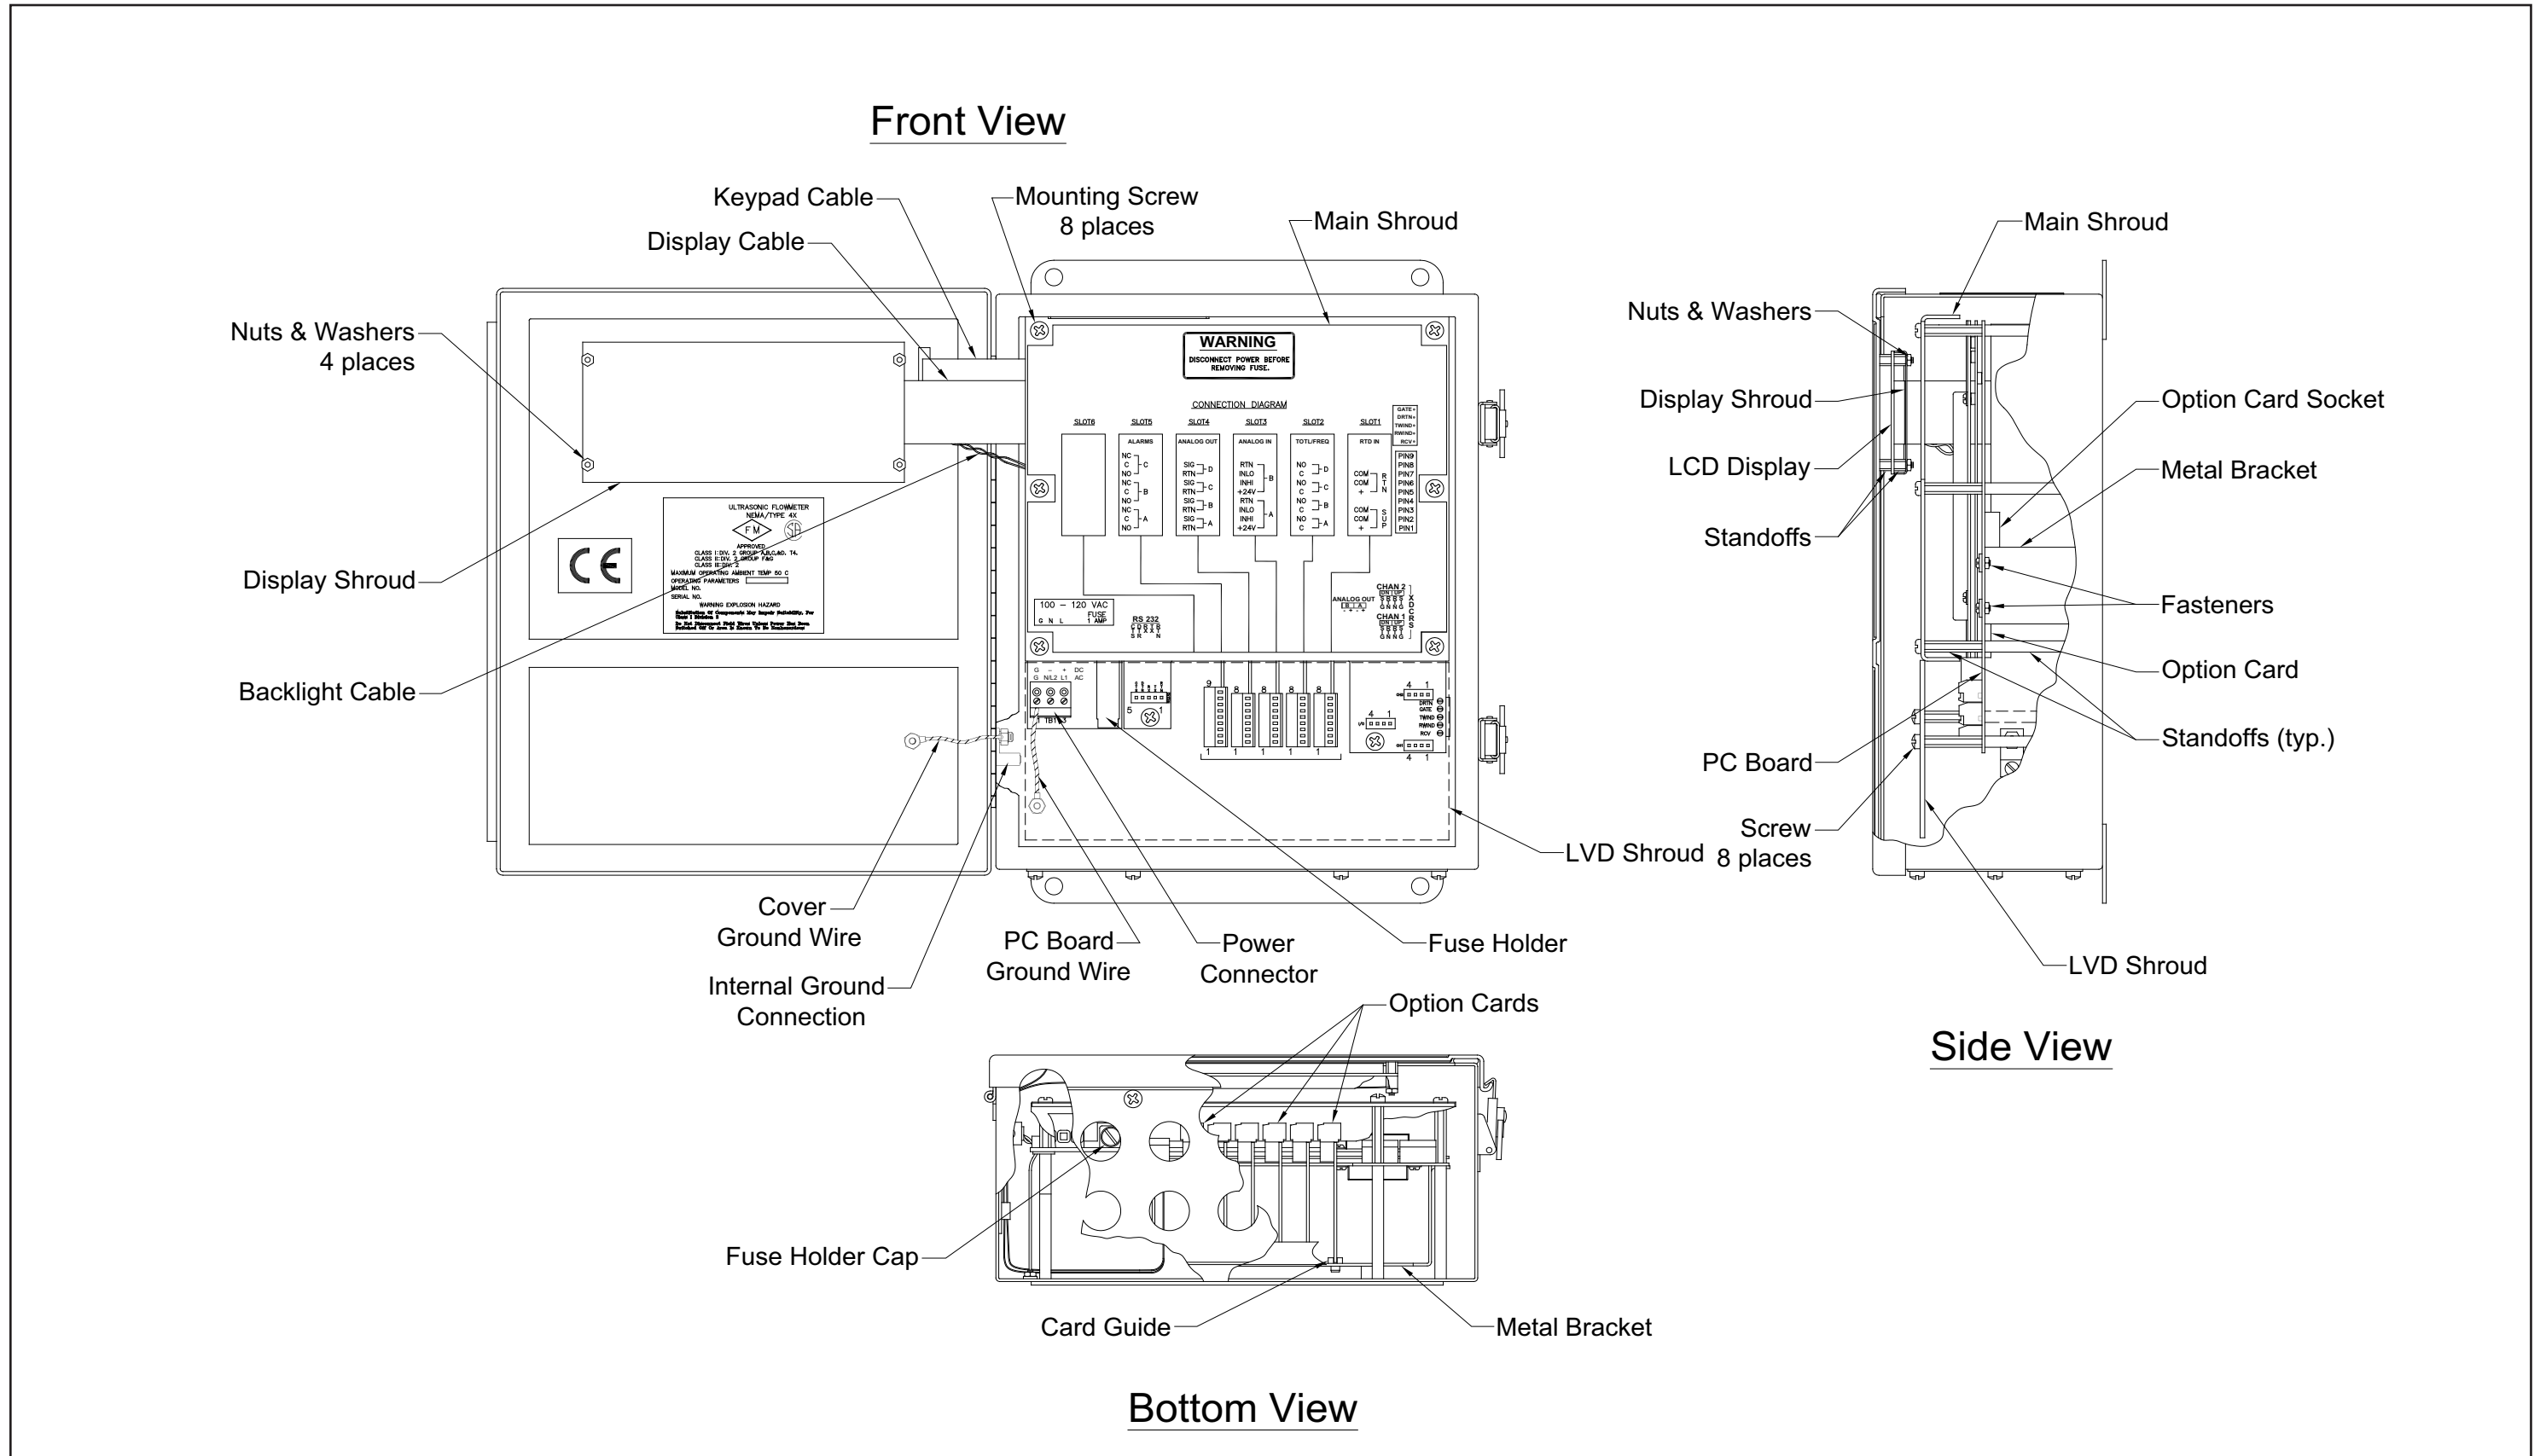
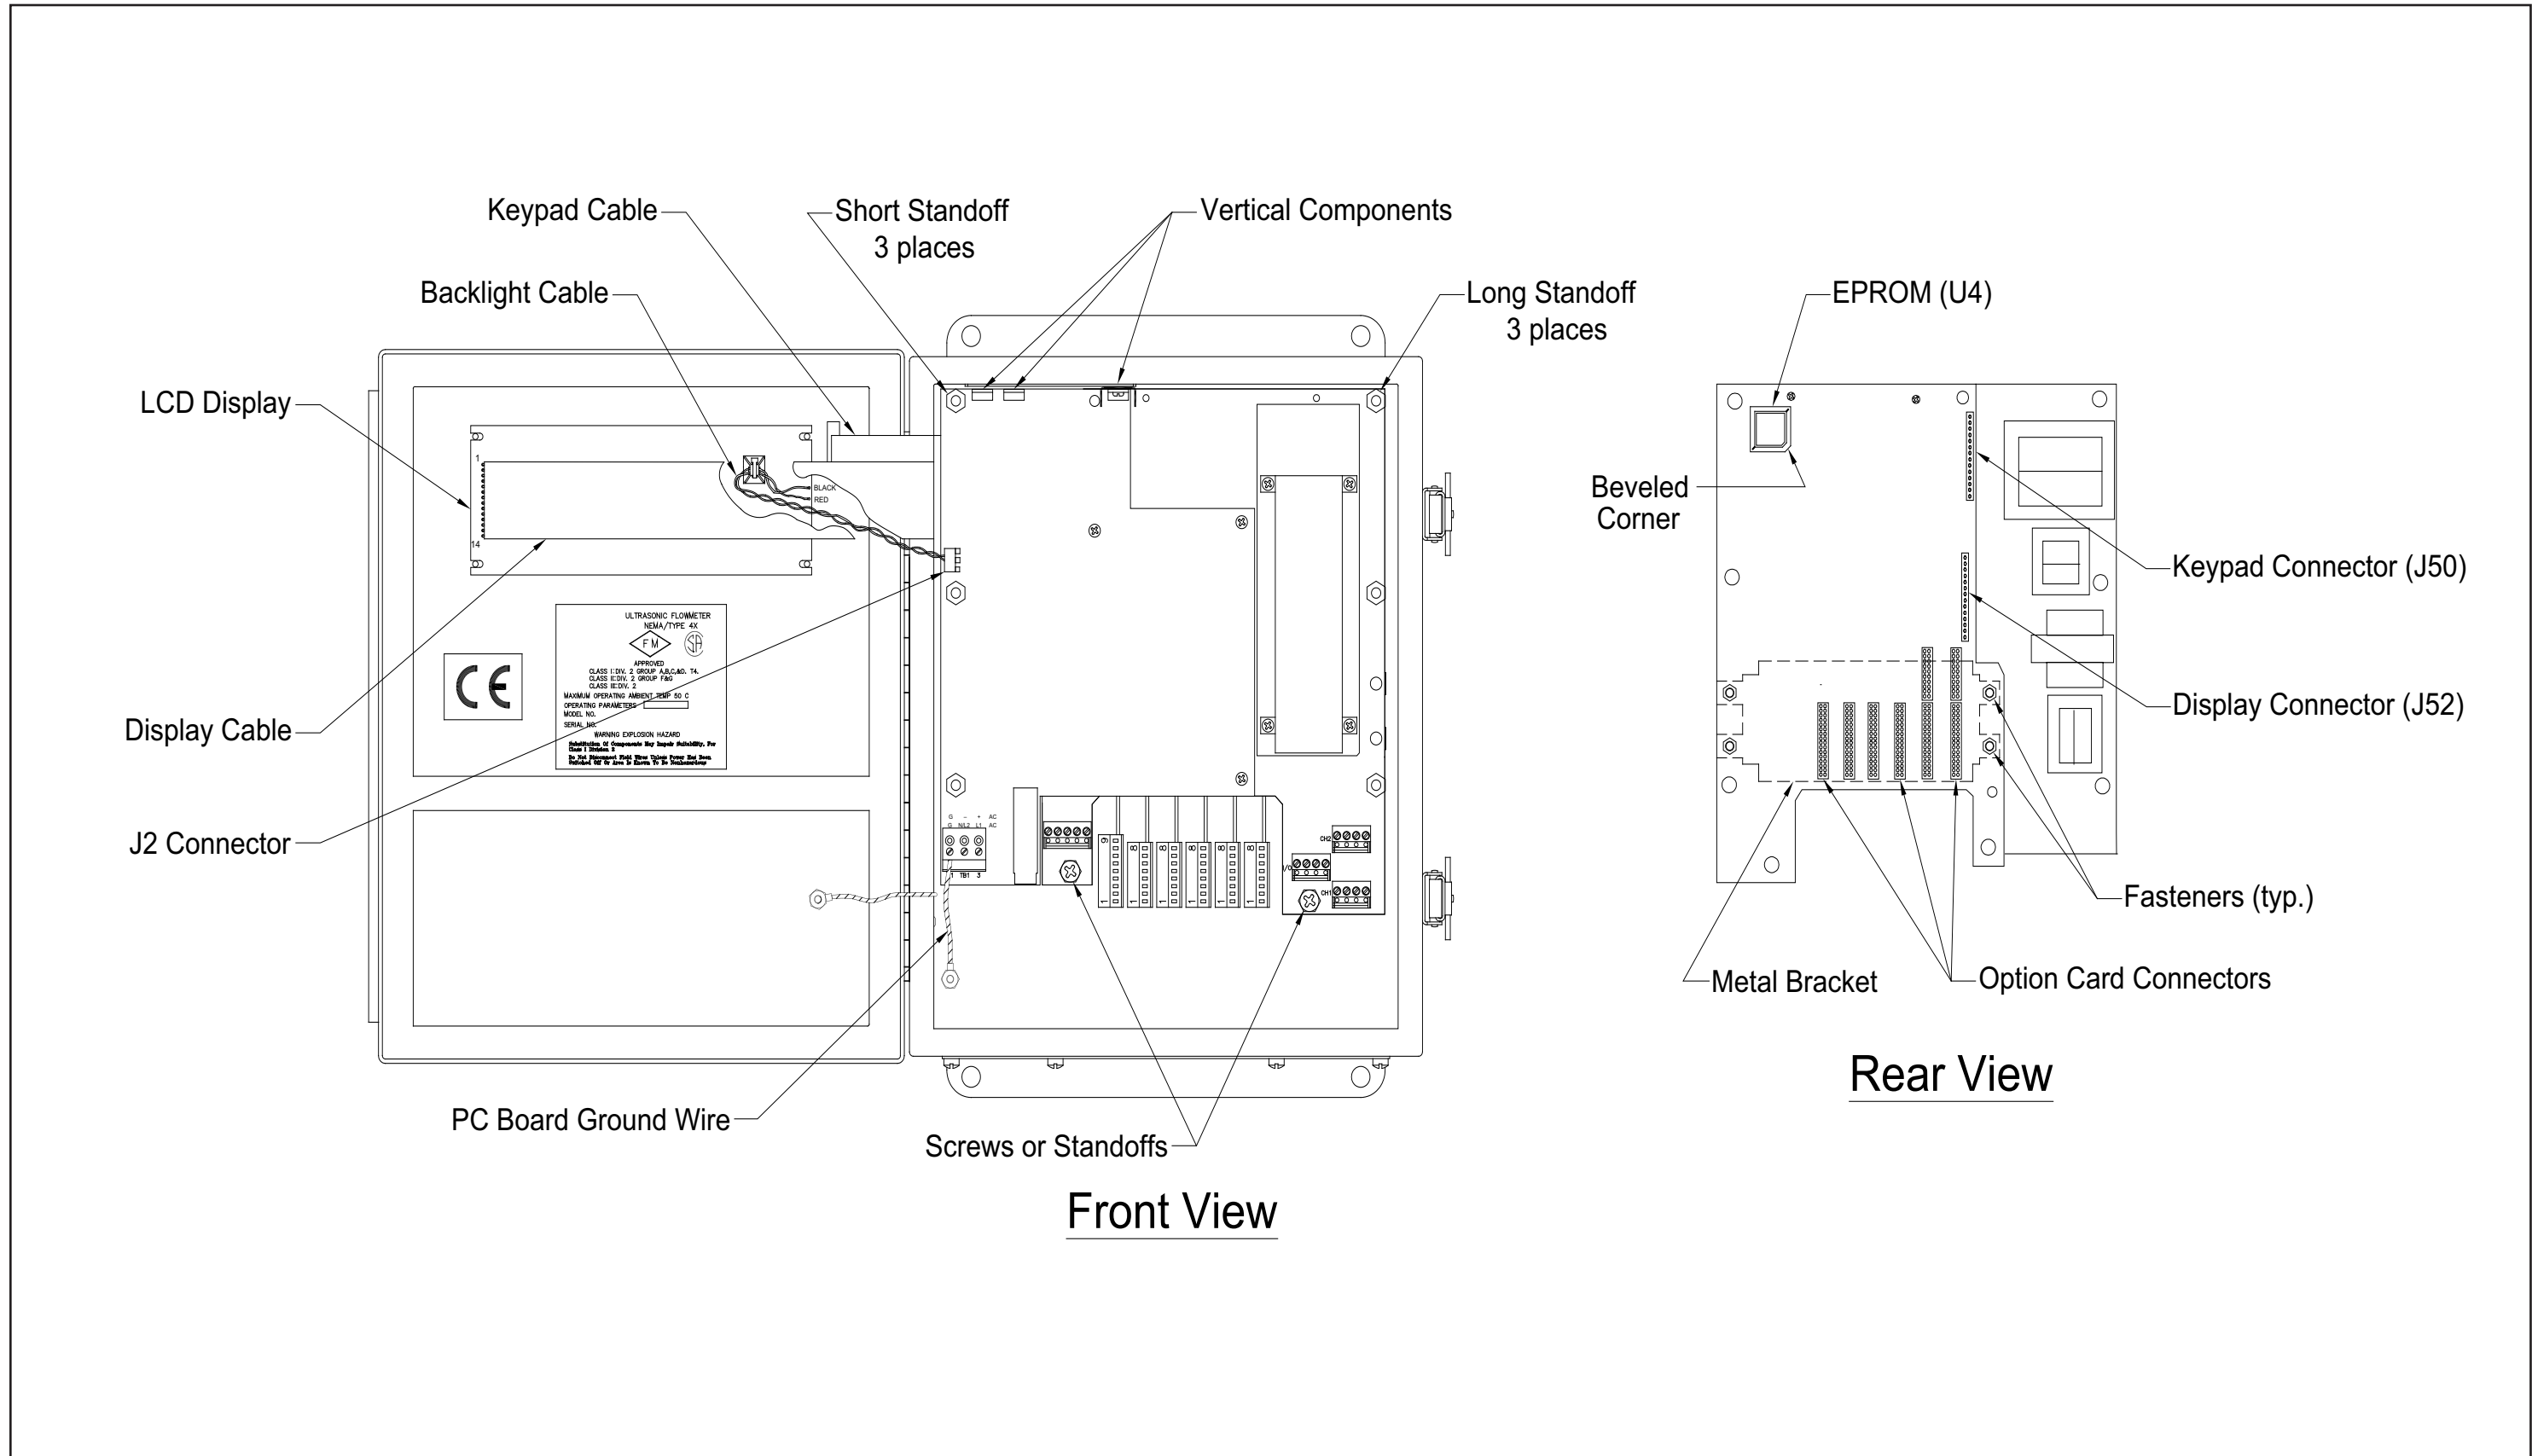

Figure 8: Standard Model GF868 - Electronics Console Assembly
Figure 9: Standard Model GF868 - Printed Circuit Board Assembly
All of the remaining maintenance procedures discussed in this chapter require removal of the printed circuit board. To accomplish this task, see Figure 8 on page 37 and Figure 9 on page 38 while completing the following:
CAUTION! During this procedure, be very careful not to damage the upright components along the top edge of the printed circuit board (see Figure 9 on page 38). Severe or repeated bending of these components will break their leads.
The Model GF868's *User Program* is stored on an erasable programmable read only memory (EPROM) chip. The EPROM, which is designated as component U4, is located in the top left corner of the rear of the printed circuit board. See Figure 9 on page 38 for a rear view of the printed circuit board. EPROM replacement may be required to replace a defective chip or to upgrade to a newer software version. To replace the EPROM, complete the following steps:
To install an option card, refer to Figure 9 on page 38 and complete the following steps:
5. Place the metal bracket over the option cards, making sure that all option cards are aligned with the plastic card guides in the bracket. Secure the metal bracket to the printed circuit board with the snap rivets provided. Refer to the installed assembly in Figure 8 on page 37.
The Model GF868's measurements are displayed on a two-pane LCD graphic display panel. The LCD display normally provides years of dependable service, but it is easily field-replaceable when necessary. To replace the LCD display, see Figure 8 on page 37 for the component locations, and complete the following steps:
4. Place the new LCD display assembly over the mounting studs on the console cover and fasten it in place with the four standoffs. Make sure that the LCD display assembly is oriented as shown in Figure 9 on page 38.
Whether the printed circuit board was removed for replacement or for one of the other procedures discussed in this chapter, reinstallation of the printed circuit board is the final step in the process. Refer to Figure 8 on page 37 and complete the following steps:
CAUTION! During this procedure, be very careful not to damage the vertical components along the top edge of the printed circuit board (see Figure 9 on page 38). Severe or repeated bending of these components will break their leads.
1. Position the printed circuit board within the electronics console with the top edge tilted forward. Insert the display ribbon cable and keypad ribbon cable connectors into their sockets on the rear of the printed circuit board. See Figure 8 on page 37 and Figure 9 on page 38 to identify the cables and sockets. Note that the keypad cable connects to the upper socket and the display cable connects to the lower socket.